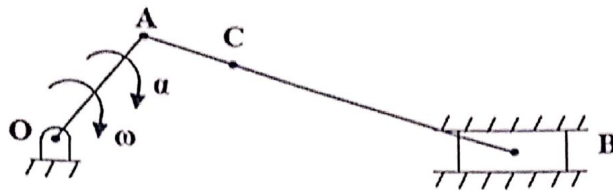

Figure 3
- c) For the crank- connecting rod mechanism shown in Figure 3:  $OA= 10$  cm,  $AB= 30$  cm,  $AC= 10$  cm. Its single degree of freedom coordinate is angle  $\theta$ . If  $\omega=30$  rad/sec and  $\alpha =100$  rad/s2. Find  $\omega_{AB}$  and  $v_B$  at  $\theta = 30^\circ$ . Use either analytical or graphical method.